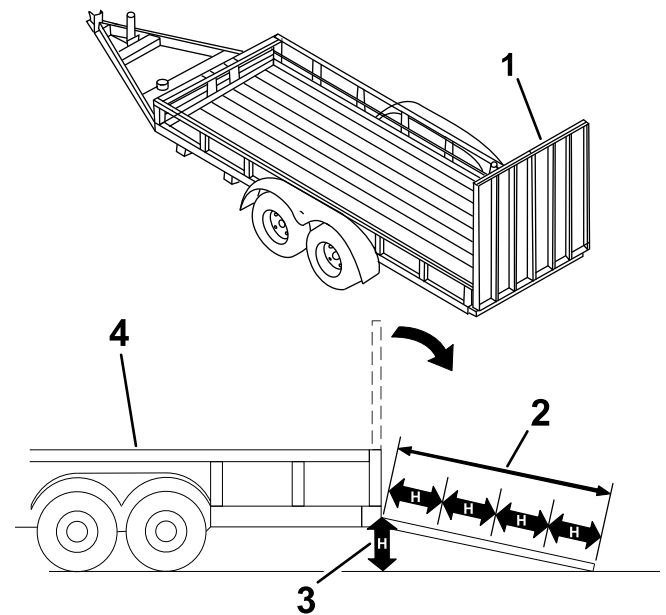

Figure 35
Loading a machine onto a trailer or truck increases the possibility of tip-over and could cause serious injury or death (Figure 35).
3. Lower the ramp (Figure 35).